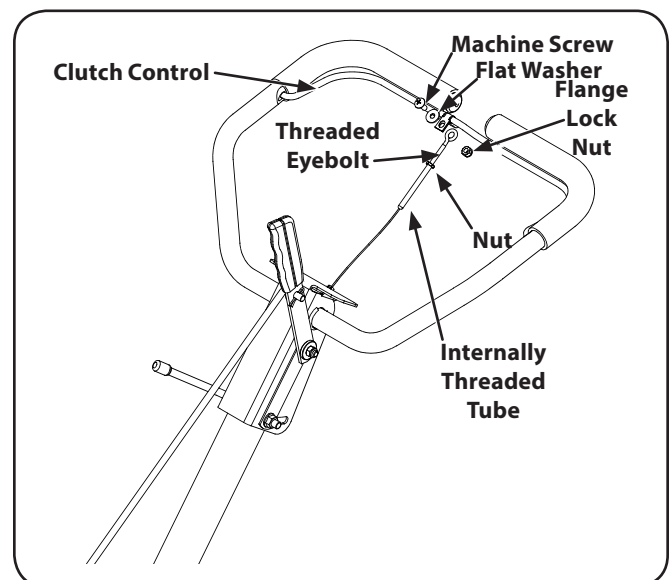

Figure 3-5
4. Remove the machine screw, flange lock nut and washer from the clutch control. See Figure 3-5.
6. Thread the eyebolt and nut removed earlier into the internally threaded tube at the end of the cable. Thread engagement should be about $\frac{3}{4}$ ". Tighten the nut against the tube at the end of the cable. See Figure 3-5.